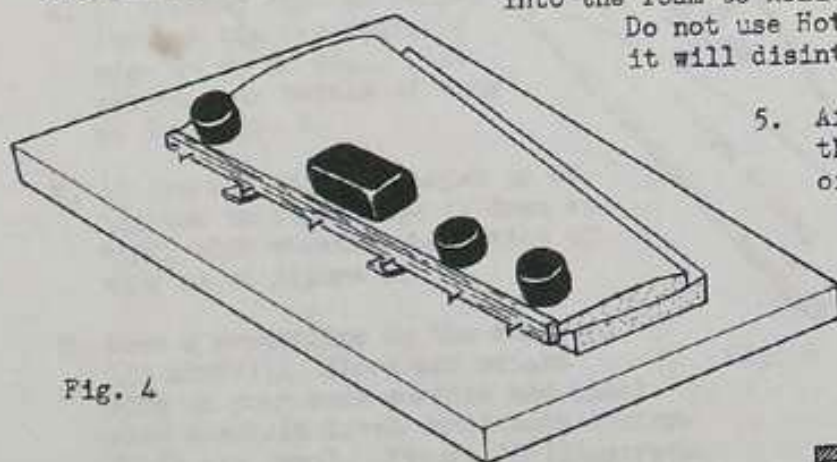

Fig. 4
4. Insert a number of T-pins through the centerline of the $1/4" \times 1/2" \times 36"$ medium soft balsa trailing edge with their points barely protruding. Apply 5-minute epoxy and place the balsa against the rear of the wing, being careful not to disturb the aligned surface. Push the T-pins through into the foam to hold the balsa in place as in figure 4. Do not use Hot Stuff in contact with foam as it will disintegrate the foam.